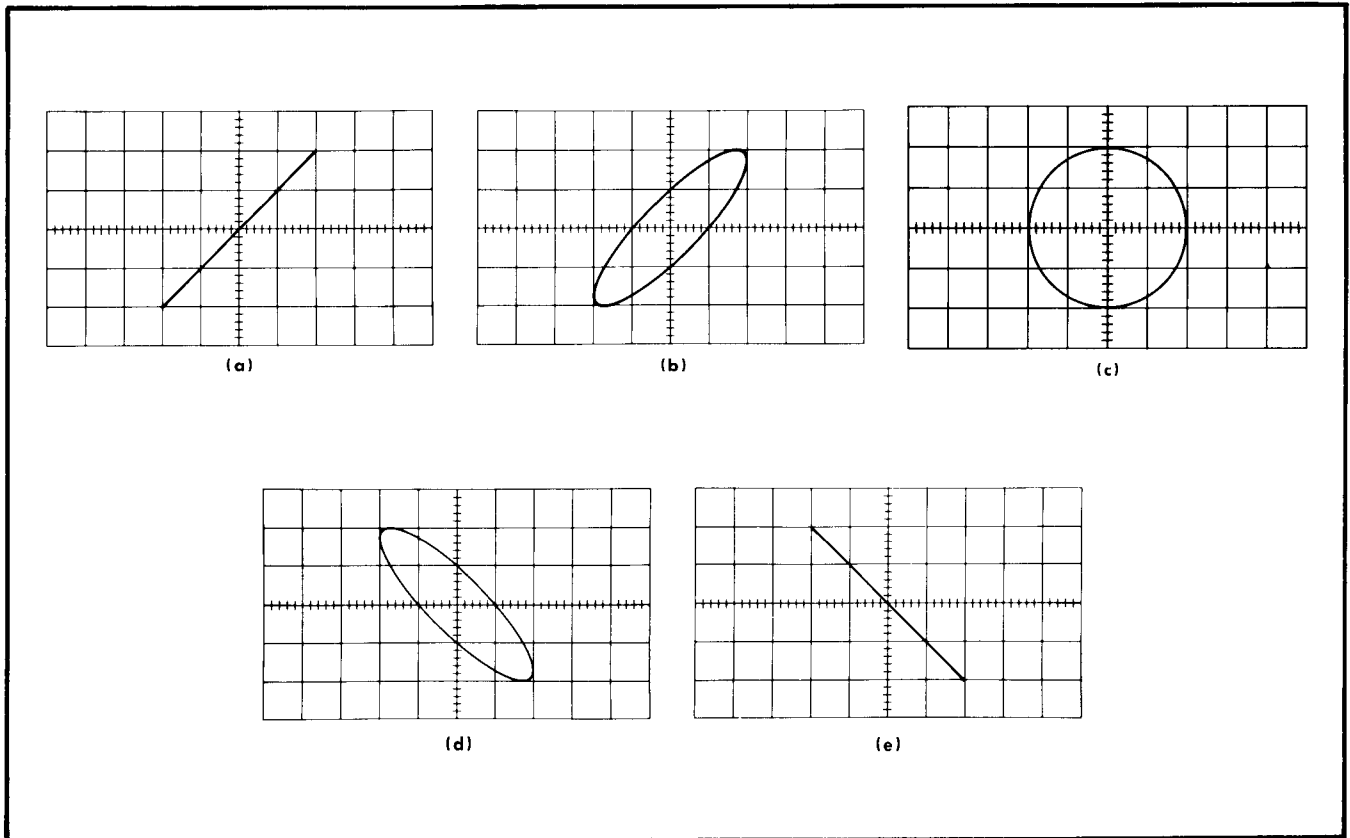

Fig. 2-24. Phase of lissajous displays. (a) 0° or 360°, (b) 30° or 330°, (c) 90° or 270°, (d) 150° or 210° and (e) 180°.
5. Divide A by B to obtain the sine of the phase angle (ϕ) between the two signals. The angle can then be obtained from a trigonometric table. If the display appears as a diagonal straight line, the two signals are either in phase (tilted upper right to lower left) or 180° out of phase (tilted upper left to lower right). If the display is a circle, the signals are 90° out of phase. Fig. 2-24 shows the lissajous displays produced between 0° and 360° . Notice that above 180° phase shift, the resultant display will be the same as at some lower frequency.